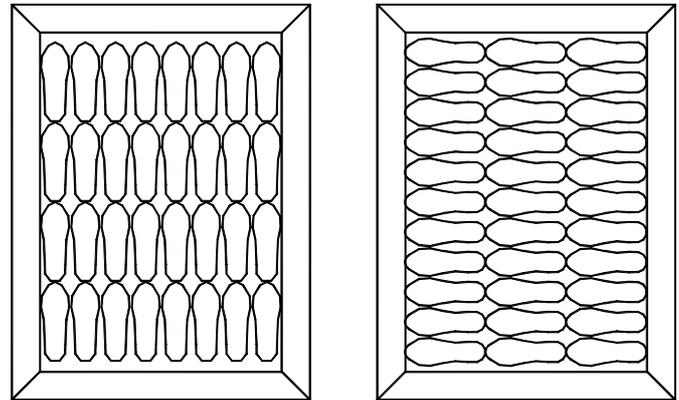

Figure 3
- k) Check that the LMI SAFETY MAT operates over the whole active area by walking, 'heel to toe' over the whole area in two directions as shown in figure 3.